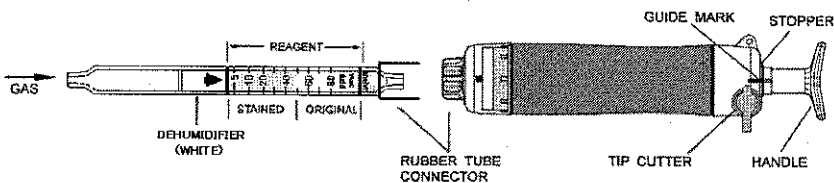

Fig.1
- ① Break both ends of the detector tube.
- ② Insert the detector tube into the aspirating pump securely as shown in Fig.1. (Arrow mark shall point to the pump.)
- ③ Align the guide marks on the shaft and stopper of the aspirating pump.
- ④ Pull the pump handle at a 1/2 stroke until it locks and wait for 30 seconds or until the completion of sampling is confirmed with the flow indicator of the pump. (See descriptions about the flow indicator in the instruction manual of the pump.)
- ⑤ On completion of sampling, read the scale at the maximum point of the stained layer.
- ⑥ When the concentration is below the scale range, 1 pump stroke can be used to determine concentrations of 2.5 to 40 ppm. Then multiply the reading value by 0.5.